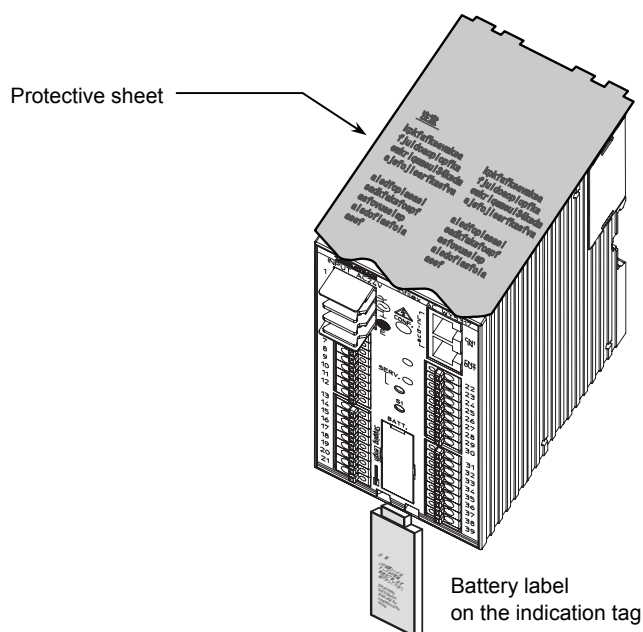

Figure 8. Battery label and protective sheet
- Peel off the protective sheet on the top surface of the product before turning on the power (see Fig. 8).